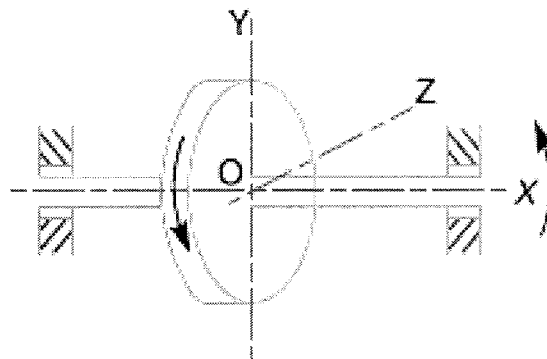

Fig 1.
4. A uniform disc of 150 mm diameter has a mass of 5 kg. It is mounted centrally in bearings which maintain its axle in a horizontal plane. The disc spins about its axle with a constant speed of 1000 r.p.m. while the axle precesses uniformly about the vertical at 60 r.p.m. The directions of rotation are as shown in Fig. 1. If the distance between the bearings is 100 mm, find the resultant reaction at each bearing due to the mass and gyroscopic effects. (C.O.NO.3)[Application]